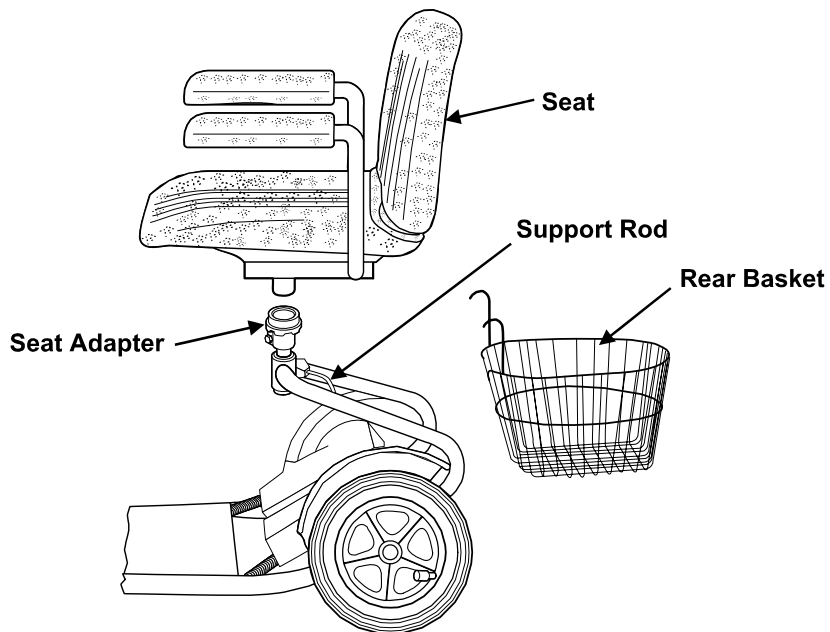

Figure 8.
- a. Install the **Rear Basket** by placing it on **Support Rod** welded to the rear frame. (See Fig. 8).